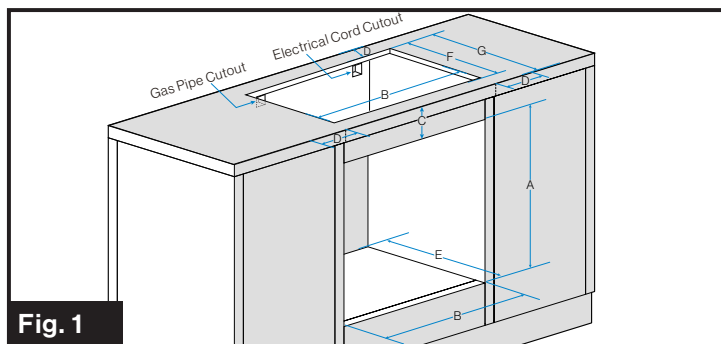

Fig. 1
**NOTE:** When the appliance is used together with a Furrion gas cooktop or induction cooktop, the cabinet cutout must be located with respect to the minimum clearance to combustible materials (minimum clearances from combustible materials: 2 inches from the rear, left and right sides (see D dimension in Fig. 1) and 30 inches from the top if a cooktop is installed). When planning the location, consider curtains or other combustible materials to be installed around the oven.
### Gas Oven with Gas or Electric Cooktop (Fig. 1)